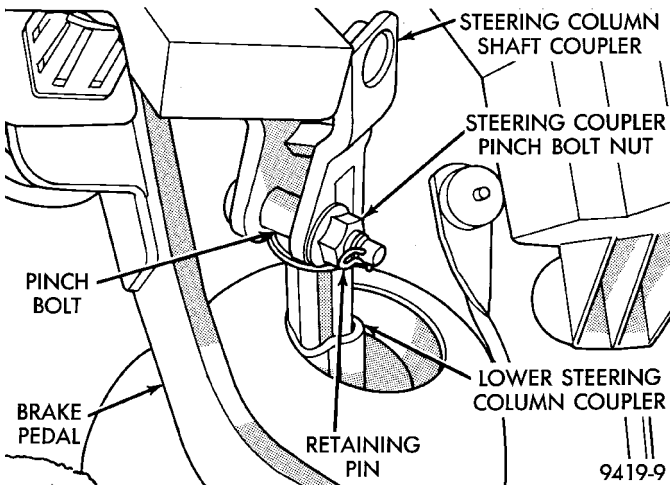

Fig. 4 Steering Column To Steering Gear Coupler
(1) From interior of vehicle, disconnect the steering gear coupler, from the steering column shaft coupler (Fig. 4).